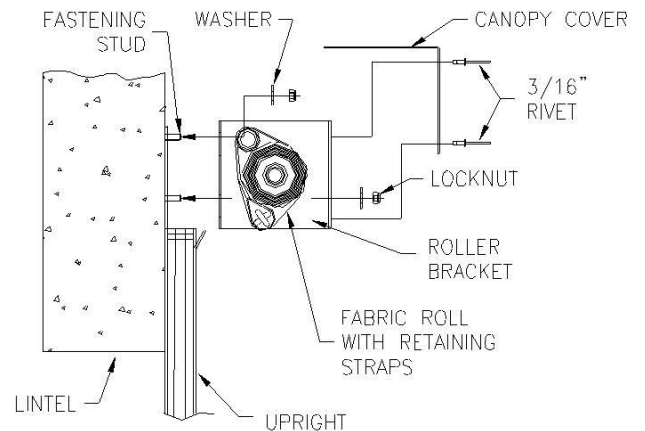

FIG. 3
b. Mount Fabric Roll. (Fig. 3)
- Use Rivets provided.(Fig. 3)
For all tubes over 3.35" (85 mm) form a tongue in the motor end of the tube by making two cuts 1" (25 mm) apart and .75" (20 mm) deep. (See Fig. 3)